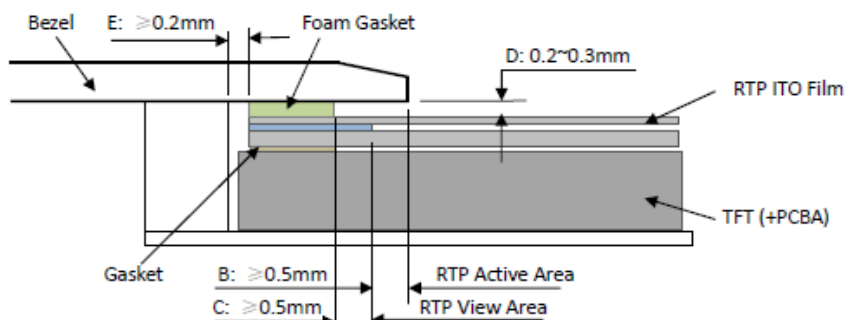

Figure 4
- It should bezel touching the RTP Active Area (A.A.) to prevent abnormal touch.It should left gab $D=0.2\sim 0.3\text{mm}$ in between. (Figure 4)
- Outer bezel design should take care about the area outside the A.A. Those areas contain circuit wires which is having different thickness. Touching those areas could de-form the ITO film. As a result bezel the ITO film be damaged and shorten its lifetime. It is suggested to protect those areas with gasket (between the bezel and RTP).The suggested figures are $B\geq 0.50\text{mm}$; $C\geq 0.50\text{mm}$. (Figure 4)
- The bezel side wall should keep space $E= 0.2 \sim 0.3\text{mm}$ from the RTP. (Figure 4)
- 为避免面框直接压在动作区 (A. A.) 上造成误动作, 面框与电阻触摸屏 (RTP) 之间应留有一定的空隙 $D=0.2\sim 0.3\text{mm}$ 之间. (附图4)
- 设计面框时, 要注意用面框保护触摸屏四周的非保证操作区域, 因为布线区域在此处形成一台阶, 在此区域附近操作时 ITO Film 变形较大, 容易导致 ITO 损坏而降低寿命。为保护 RTP 和避免误操作, 在 RTP 与面框之间垫缓冲物 (Gasket), 我们建议设计面框应覆盖动作区的边缘, 面框边缘到 V. A. 区的距离 $B\geq 0.50\text{mm}$; 垫圈内边缘到 V. A. 区的距离 $C\geq 0.50\text{mm}$. (附图4)
- 在设计面框与 RTP 组装时, 应考虑到面框内侧与 RTP 外侧的间距 $E\geq 0.2\text{mm}$. (附图4)